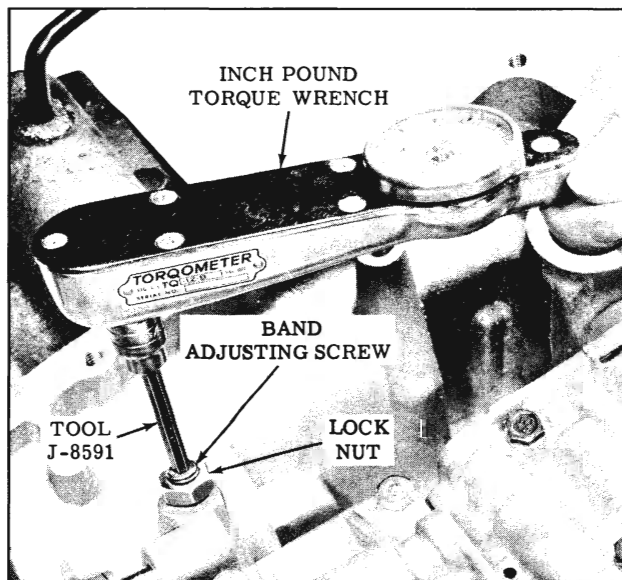

Fig. 3-319 Adjusting Band
59. With J-8591 and inch pound torque wrench, torque the band adjusting screw to 100 inch pounds, and then back the screw off 2-1/4 turns. (Fig. 3-319)